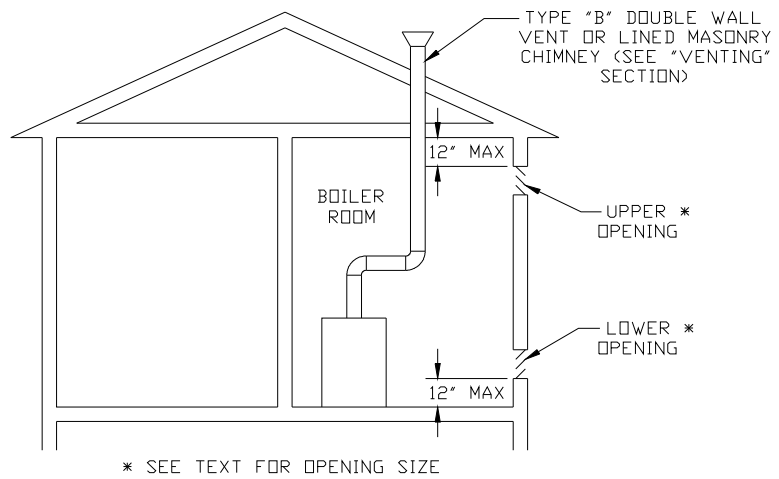

Figure 18: All Air From Outdoors, Using Openings Into Boiler Room
- a. **Direct communication with outdoors** (Figure 18) require a minimum free area of 1 square inch per 4,000 Btu per hour input based on all fuel burning appliances in the boiler room space but not less than 100 square inches. The minimum opening size is 3 inches.